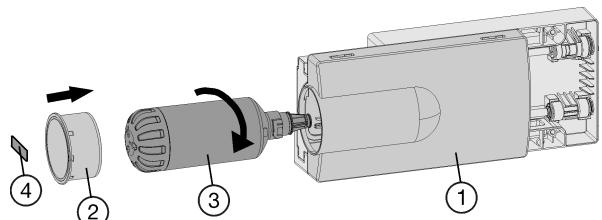

Fig. 8
- Insert the water filter Fig. 8 (3) and turn it approximately 100° clockwise until it locks into position.
- Slide the tray Fig. 8 (1) in.
- Place the cover Fig. 8 (2) on the filter.
- Write the date of the next filter replacement on the supplied adhesive label Fig. 8 (4) and affix it to the module.